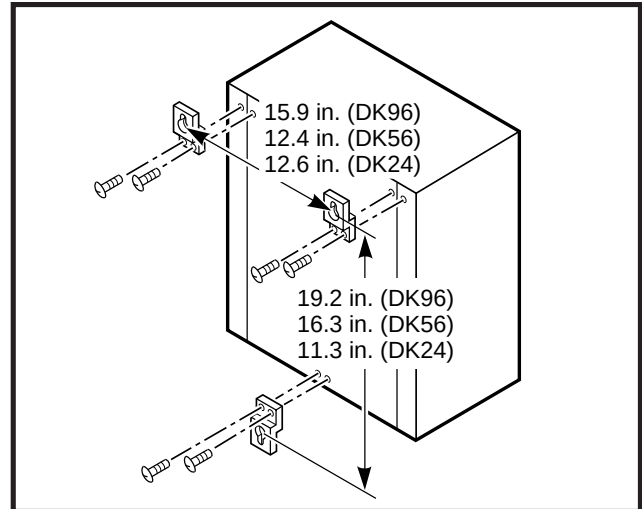

FIGURE 5-1
- 1) Install the three wall-mounting brackets (packed in the shipping carton with the KSU) on the rear of the KSU in both upper corners, and at the bottom center. Secure each bracket to the KSU with the back panel screws and the screws supplied with the brackets (Figure 5-1).
- 2) Mark the appropriate mounting screw locations on the wall by using Figure 5-1, or hold the KSU against the wall at the selected mounting location. Mark the positions of the holes in the flat part of each mounting bracket where they contact the wall. Mounting screws will be installed at these locations.